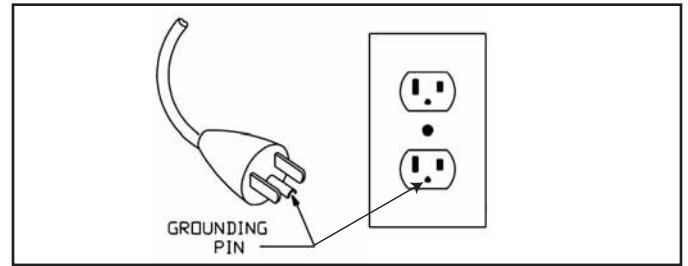

Figure 4.4 Grounded Plug-in
4. Place fireplace in desired location. Plug into outlet. See plug-in / outlet grounded view shown in Figure 4.4.